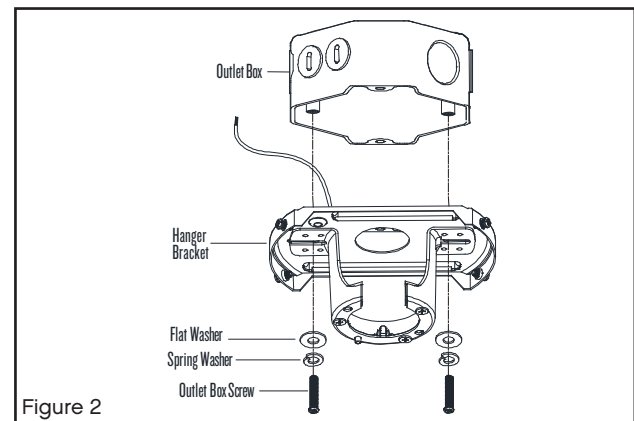

Figure 2
- 4 Attach hanging bracket to outlet box using screws provided with the outlet box. (Fig. 2)